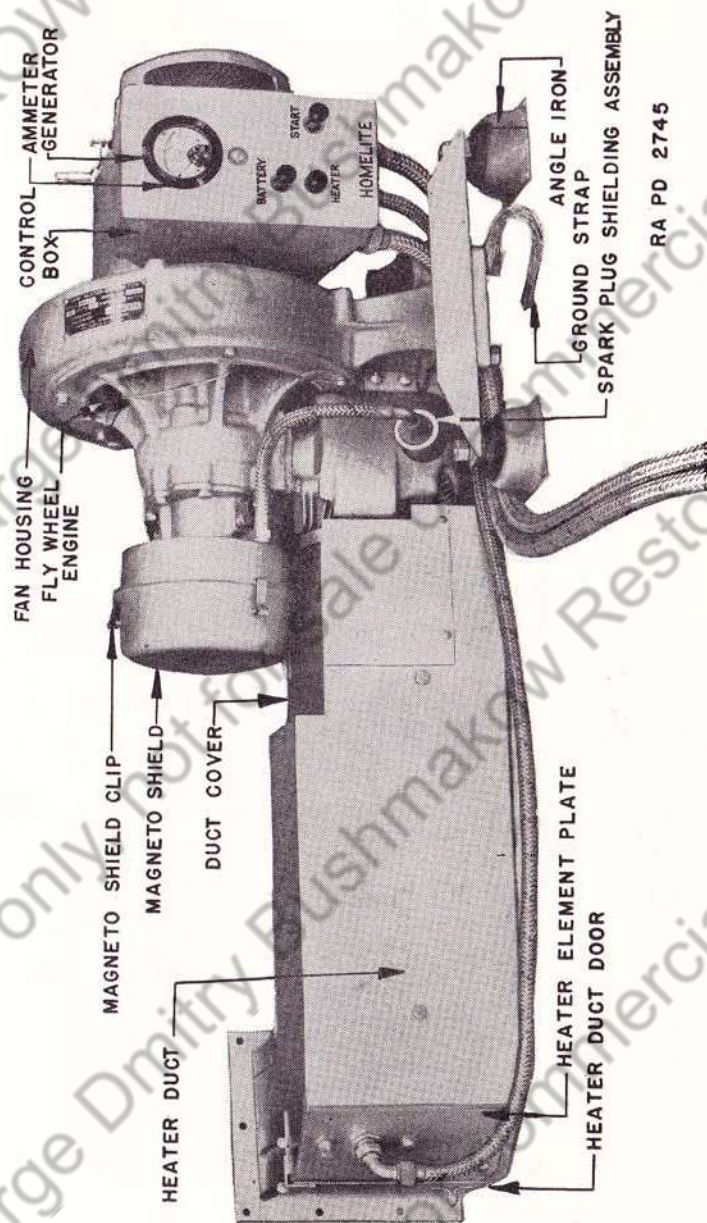

FIGURE 74.—Front view of auxiliary generator unit.
**119. General** (figs. 74 and 75).—*a.* The auxiliary generator is a self-contained generating unit for charging the tank batteries and for preheating the tank engine compartment in cold weather by means of heat from an electric heating element and heat from the generator engine. It may also be used for heating the crew compartment. The unit is located in the left rear corner of the fighting compartment on a level with the turret deck.
d. To operate the unit.—(1) For cold weather starting, below 32° F.—